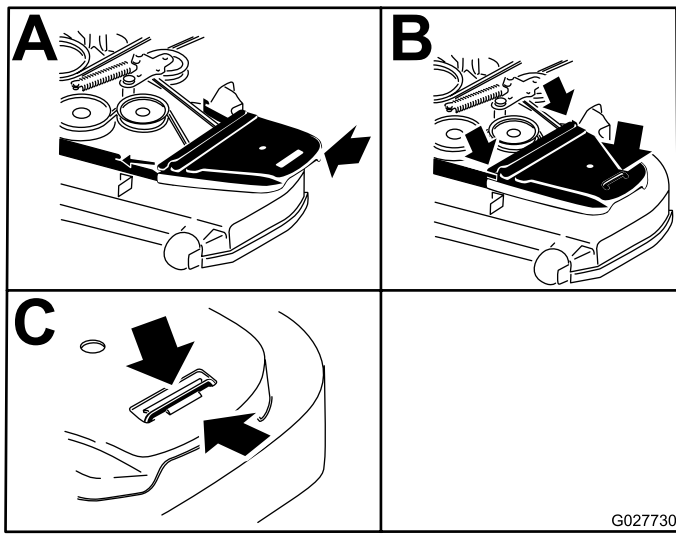

Figure 58
12. Install the belt covers (Figure 58).